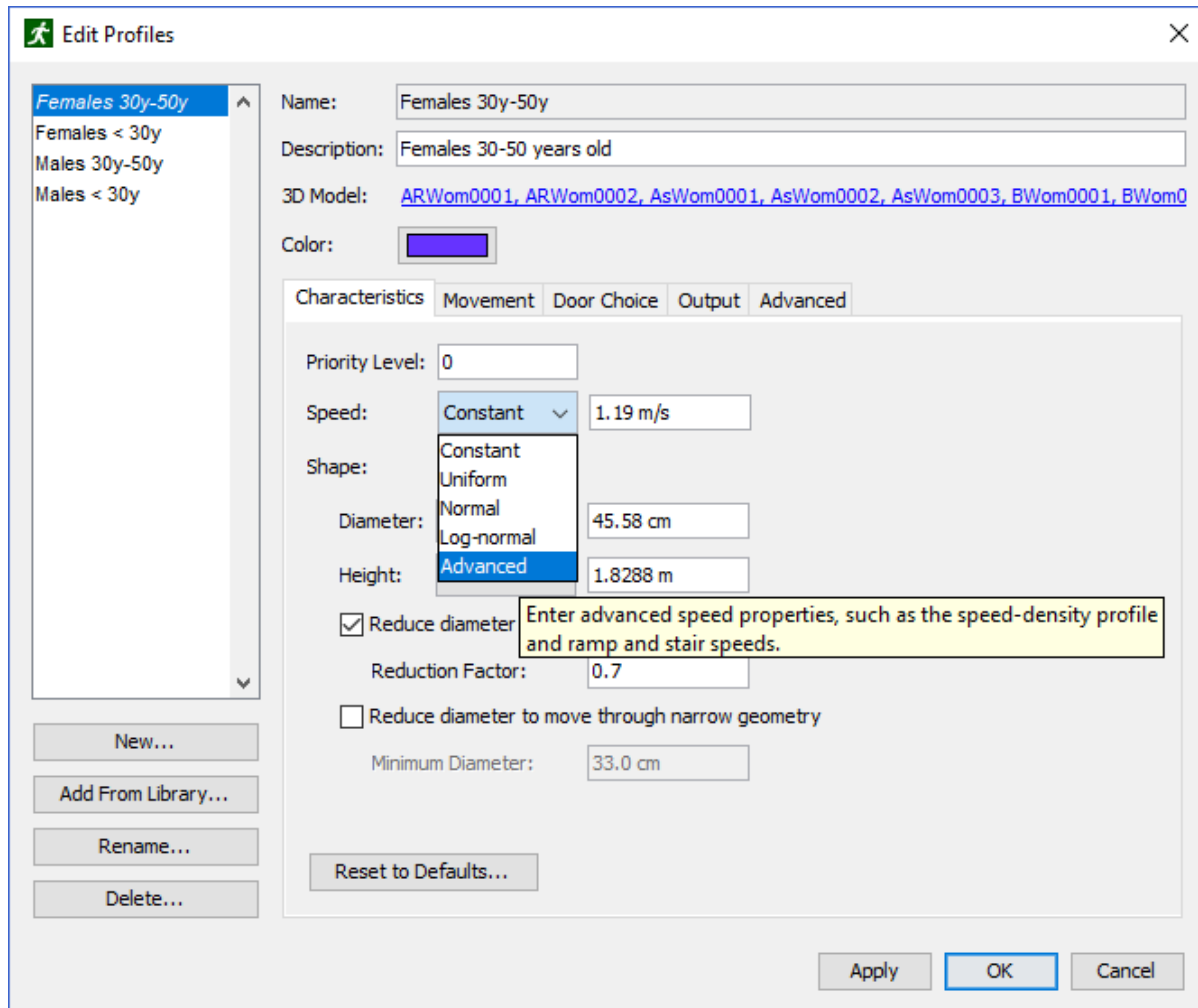

Figure 100. Editing advanced speed properties
3. Next to **Speed**, click the drop-down box and select **Advanced** as shown in Figure 100.